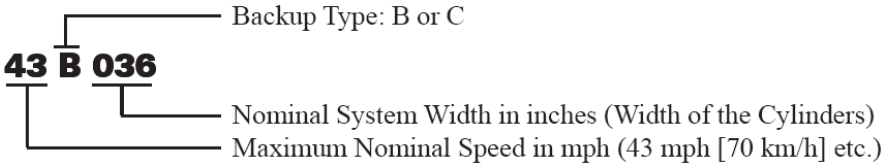

**Figure 15
5. Breaking cross-slopes under or near the proposed assembly or severe cross-slope under the system. Provide leveling to 8% maximum slope (Figure 15). Often a system can be moved further forward to a more level site. Transitioning may be extended back to the existing roadside condition to accommodate the site.